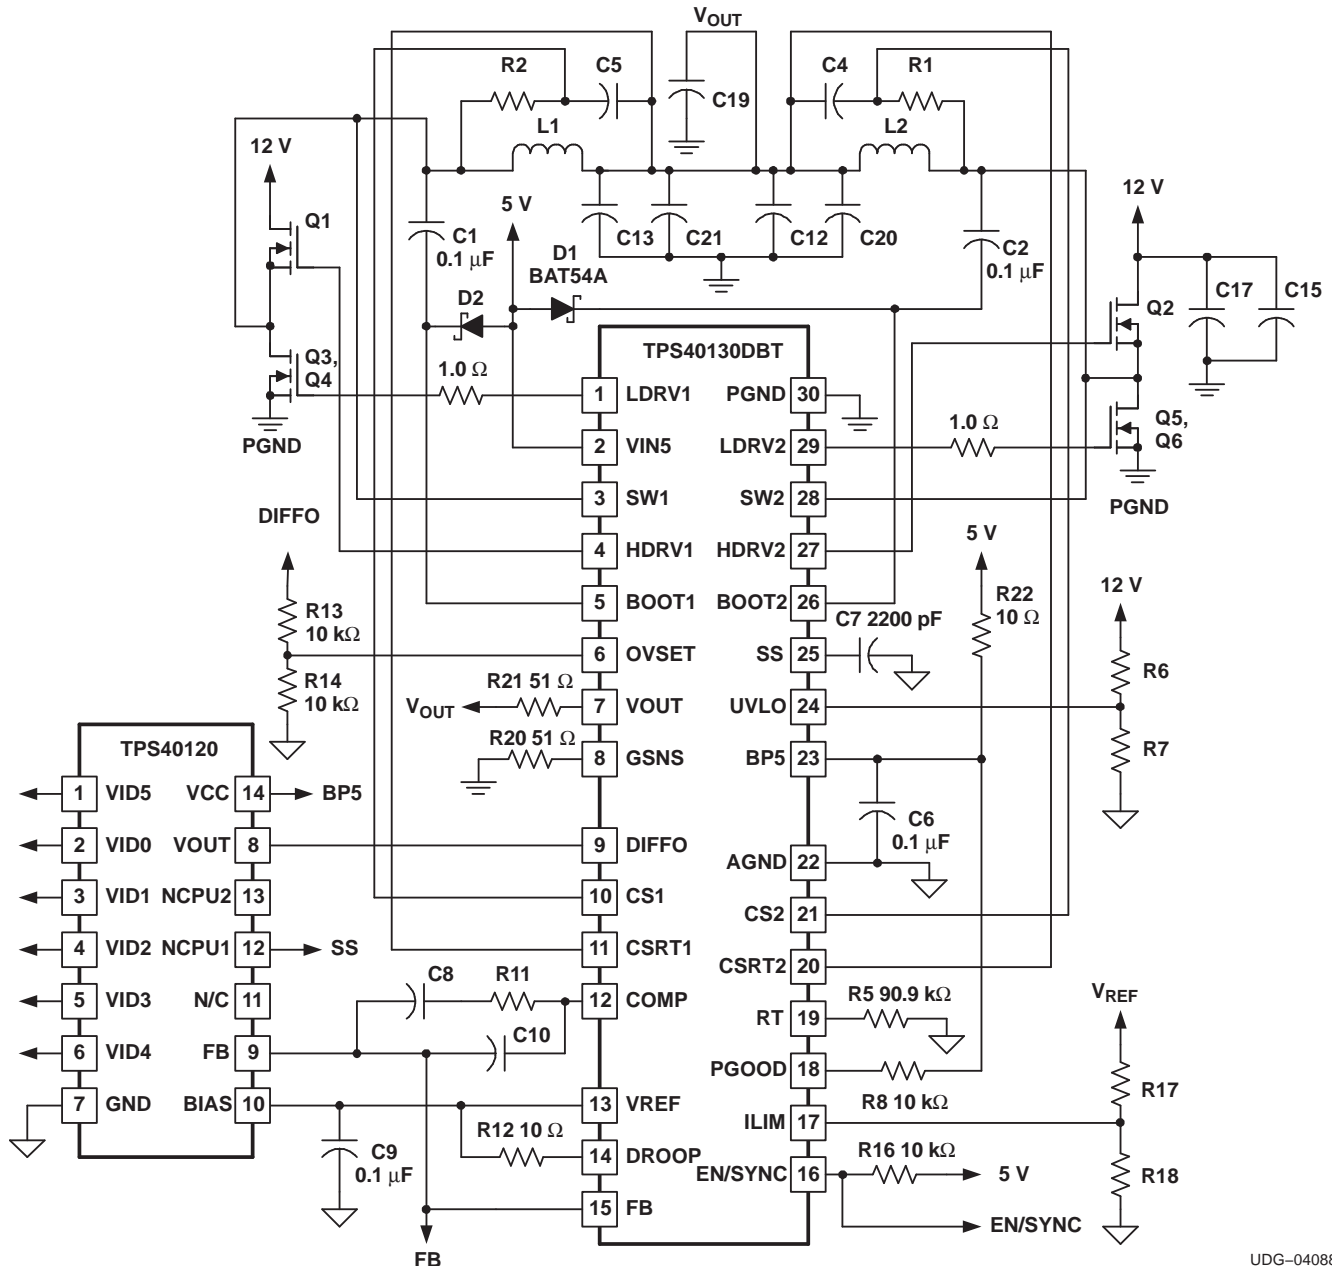

Figure 14. Application Circuit with VID Control
Figure 14 shows a VRM10.x compliant solution where the output voltage is controlled by the VID code of the TPS40120. The six-bit controller provides outputs from 0.8375 V to 1.600 V in 12.5 mV steps for VRM 10.x or provides five-bit control for other Intel processors. When the TPS40120 receives a VID of x11111, indicating the no CPU state, output NCPU1# pulls the soft-start (SS) pin low insuring the output voltage soft-starts with a valid VID code.